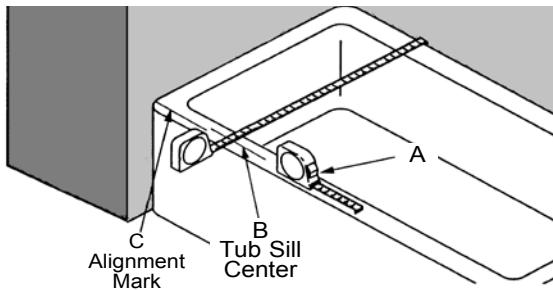

Figure 1
- A. Using the Tape Measure, measure between right and left walls along the flat-test part of the tub sill. Write this dimension down (See Figure 1).